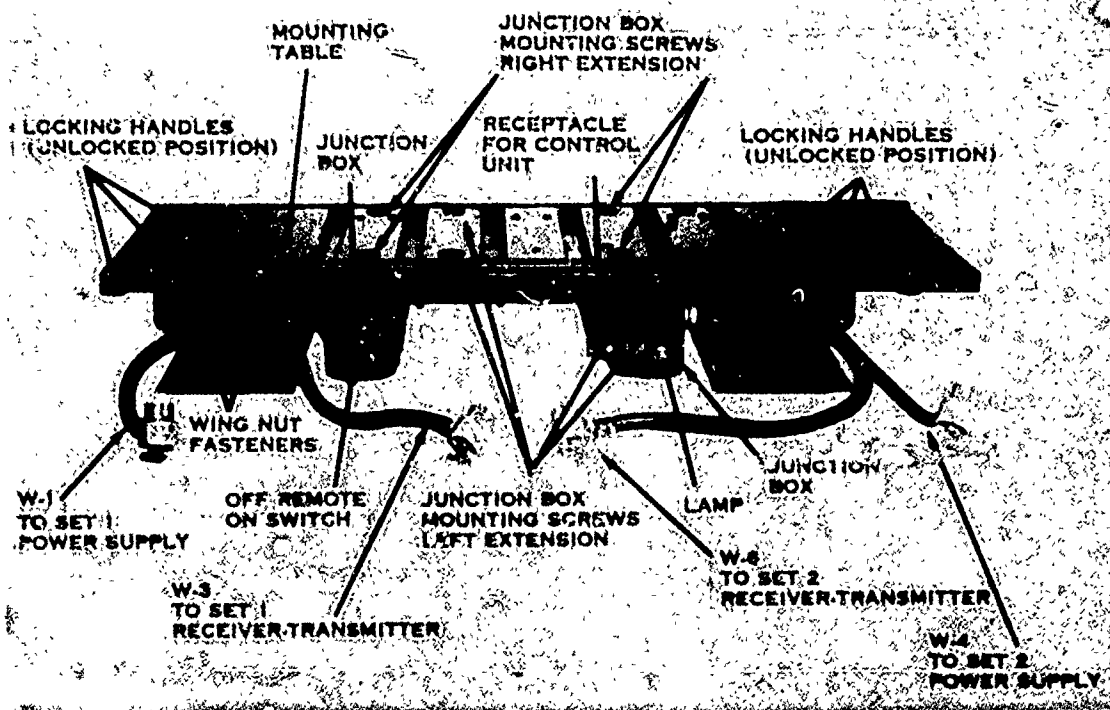

Figure 4-3. Mount MT-298/GR.
- (2) MT-298/GR (AN/VRQ-3). (Figure 4-3)